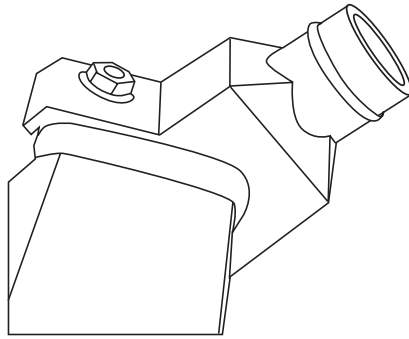

Fig. 4 — Fitting is Tight With the Gasket
7. Dry fit drain fitting on rear of air seal so that it is snug against side and bottom of the air seal. It is important that the drain fitting forms a seal with the gasket supplied (See Fig. 4). Mark the hole so that it will be tight with the gasket that will be applied in Step 9. The hole will be located just below the sheet metal bend.